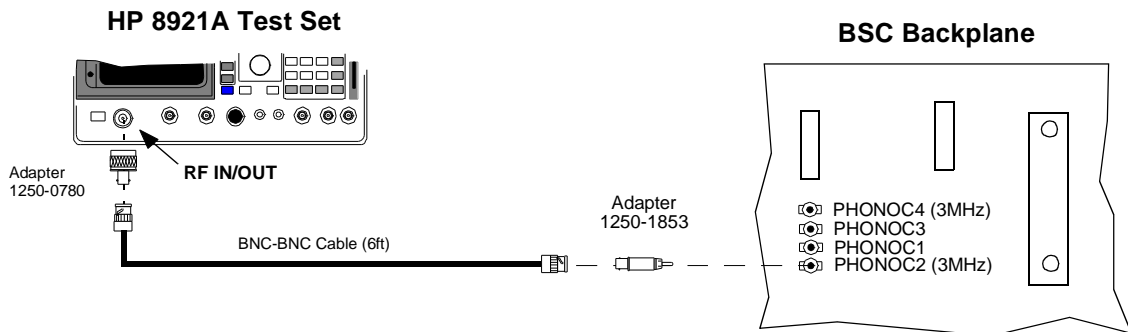

Figure 62 URDM Test Set Diagram
- 7 Make the connections shown in *figure 62, "URDM Test Set Diagram"*.